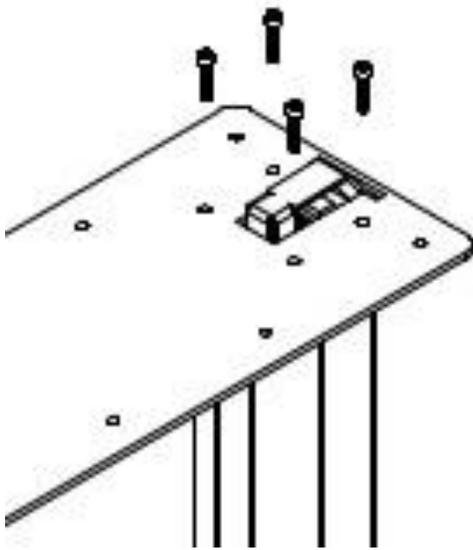

Figure 4
4.2 Remove the top plate by first removing (4) screws (Figure 4). A power driver may be required for this operation.
- 4.11 Attach the Top plate to the column with the 4 screws removed in step 4.2 (Figure 4).